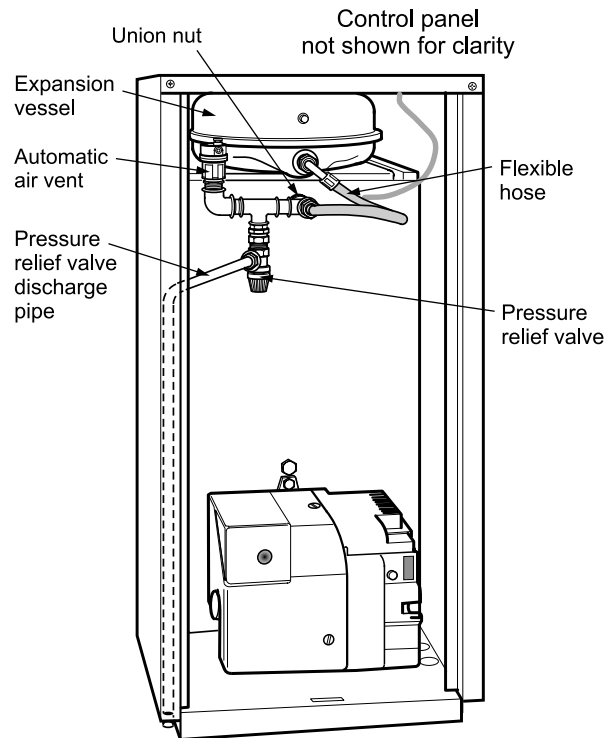

Fig. 15
See Figs. 15, 15a and 15b
- 3 Connect the relief valve/automatic air vent assembly to the 3/4" connector, using the sealing washer and secure in position by tightening the union nut. See Fig. 15.
- 1 An automatic air vent is fitted to the top of the boiler (see Fig. 15 or 15c). Check that the small cap on the top of the air vent is screwed on fully, then unscrew it one complete turn - the cap remains in this position from now on.
- 8 Check the operation of the pressure relief valve (see Fig. 15 or 15c) by turning the head anticlockwise until it clicks. The click is the valve lifting off its seat allowing water to escape from the system. Check that this is actually happening, and water flows unobstructed from the relief discharge pipe.